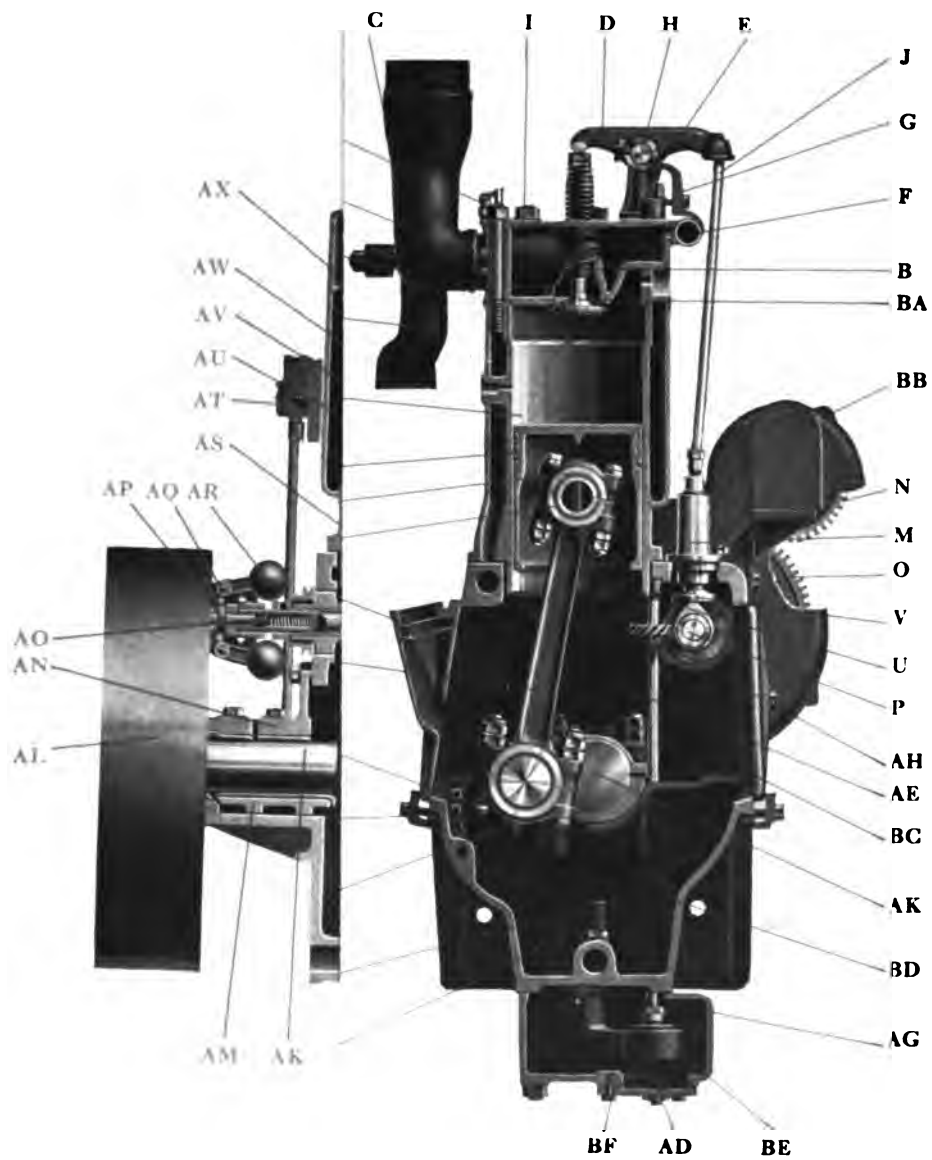

Fig. 3
- 50** — The lubrication of the 45 engine is the splash system with circulating pump. The circulating oil pump is shown in Fig. 3 as BE. A mechanical oiler is employed to deliver oil to the bottom of the pistons on the thrust side (not shown on Figs. 2 or 3).
- 53 — From the oil reservoir AG, the circulating pump BE, Fig. 3, forces the oil to the sight feed distributor AT, Fig. 2, and thence by four distributing pipes to the separate oil pits again, thus maintaining a constant level condition which is taken care of by the overflow pipe. If waste, lint or pieces of carbon clog the oil screen AD, Fig. 2, or the distributor pipes become clogged, the oil level under one or more cylinders may get low and result in damage to the piston and cylinder or bearings. The oil screen AD must be kept clean of all obstruction.
- 55 — To clean the oil screen AD, wipe the bottom of the oil reservoir AG clean and free from dirt. Obtain a clean 5-gallon oil can, remove the oil reservoir plate BF, drain and catch the oil that comes out of AG. This will give direct access to the screen AD and cleaning can be effected. If this adjustment has not entirely remedied the condition, it will be necessary to remove the oil reservoir AG and disassemble the pump BE, Fig. 4. This is accomplished by removing the taper pin in the spiral gear AH, Fig. 3. Remove the cap screw on the pump BE, drop it away from the bottom of the crankcase where it can be readily disassembled. In replacing the pump, be sure that the cap screws are set up tight and that the taper pin is replaced in the spiral gear AH firmly, and cotter pin put back securely. In the 45 tractor it will be necessary to drop the cross ties to remove the oil reservoir AG.
- 58 — On the carbureter side of the engine and opposite each oil pit a drain plug is provided. Drain plugs are also provided in the oil reservoir AG. Remove the drain plugs, catch the oil. Because of the oil tunnel on the bottom of the crankcase, the removal of the final quantity from the pits must be effected by hand. Remove plate BF on bottom of oil reservoir AG, Fig 3, and clean bottom of oil reservoir by hand. Replace BF, replace plugs in crankcase, *fill each compartment with kerosene* till oil level is reached. Pour an extra gallon in one compartment so that the oil reservoir AG will receive enough so that the oil pump BE will pump the kerosene and clean out the supply line and the distributor pipes from the sight feed AT. Replace crankcase doors and start the engine, **ALLOW IT TO RUN FOR TEN SECONDS**, being careful never to exceed this time. Remove plugs in crankcase and oil reservoir, drain off kerosene, allow engine to stand for a while, then wipe oil pits clean with a cloth that does not give off lint. **AFTER WASHING CRANKCASE, FILL WITH CLEAN CYLINDER OIL.** *Time devoted to keeping the oil clean and washing the crankcase when required pays big dividends in freedom from bearing trouble and loss of time due to impaired lubrication.*